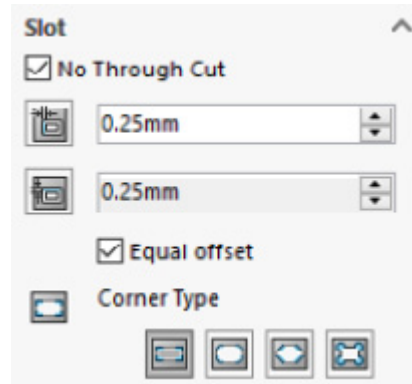

Figure 8.10: Slot options
6. Next, we can set the **Offset** amount of the slots, as illustrated in *Figure 8.10*. This is how much larger the slots will be compared to the tabs. Slots always have to be slightly larger so that tabs can fit into them, and so it's not possible to set the **Offset** amount to zero, although a very small number can be set instead.